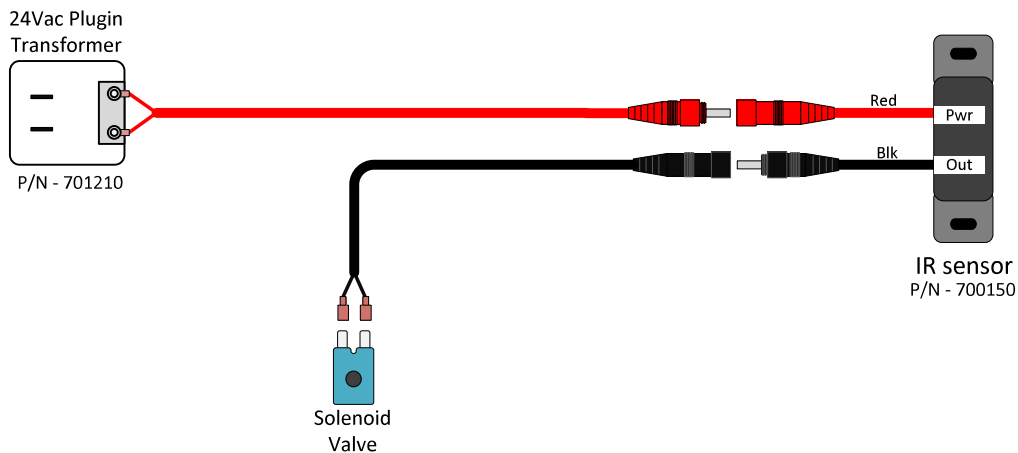

Figure 2
4. Connect the red male power cable to the red female connector on the sensor. *See figure 2.*
5. Connect the black female solenoid cable to the black male connector on the sensor. *See figure 2.*